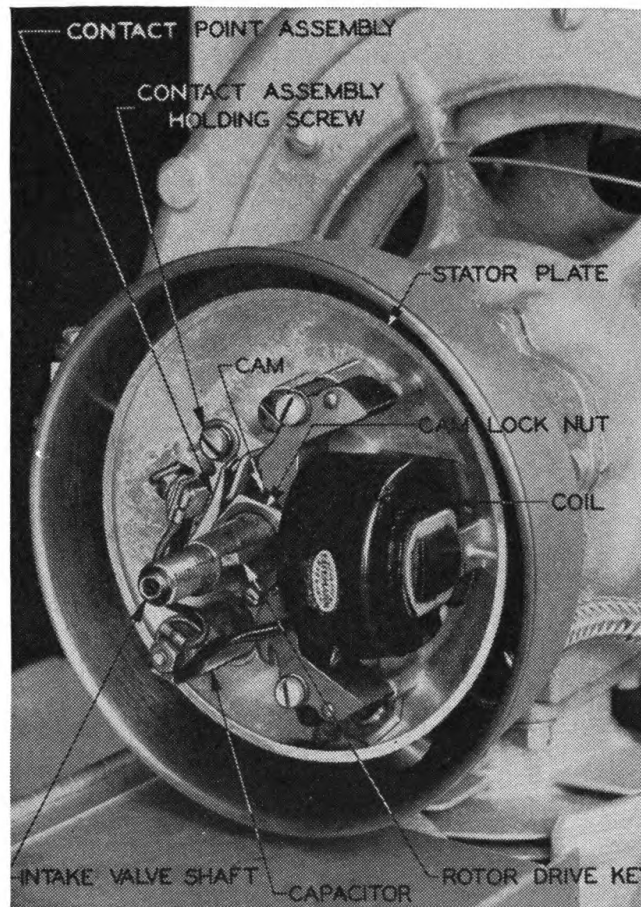

FIGURE 6.—Contact point adjustment.
(2) Each time the plug is removed, the baffle is to be taken out for cleaning. It is extremely important to scrape out thoroughly all carbon, brownish lead deposits, and loose particles on both sides of the baffle. The baffle will operate satisfactorily with up to 50 percent of the holes plugged. However, it is to be replaced every 75 hours of operation. Always use a new gasket when replacing the baffle.
*b. Magneto.*—The only adjustment is at the contact point assembly (fig. 6) which is to be inspected every 75 hours of operation to see that the gap is exactly 0.020 inch. To adjust, proceed as follows:
point of cam (fig. 6), approximately  $\frac{1}{8}$  inch past the breaking edge of the cam. Check the gap with a feeler gage.